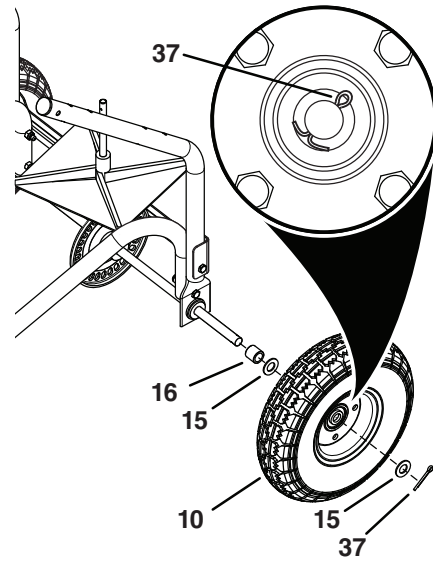

Figure 6
STEP 6: (SEE FIGURE 6)
- Slide a spacer (16), a 1/2" washer (15), and a wheel (10) onto the round end of the axle.
- Slide a 1/2" washer (15) over the axle and secure the wheel with a 1/8 x 1-1/4" cotter pin (37), spreading the ends.